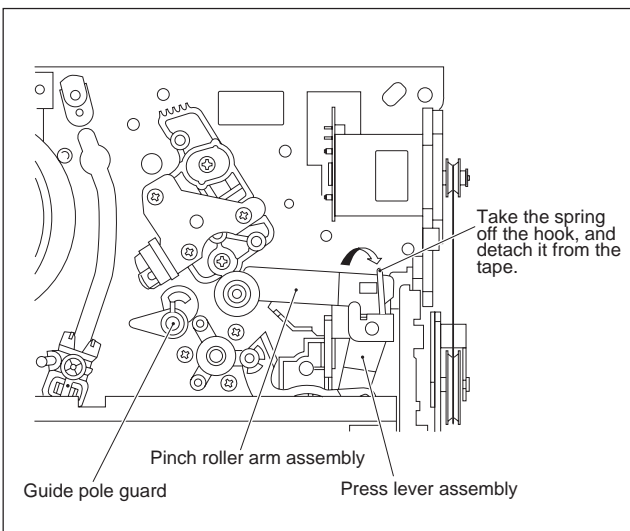

Fig.3-1-4d
- (3) Take the spring of the pinch roller arm assembly off the hook of the press lever assembly, and detach it from the tape. (See Fig.3-1-4d.)
- (4) In the same way as in the electrical failure instructions in 2.1.3-1(5), remove the top guide.
- (5) Raise the cassette tape cover. By keeping it in that position, draw out the cassette tape case from the cassette holder and take out the tape.
- (6) By hanging the pinch roller arm assembly spring back on the hook, take up the slack of the tape into the cassette.